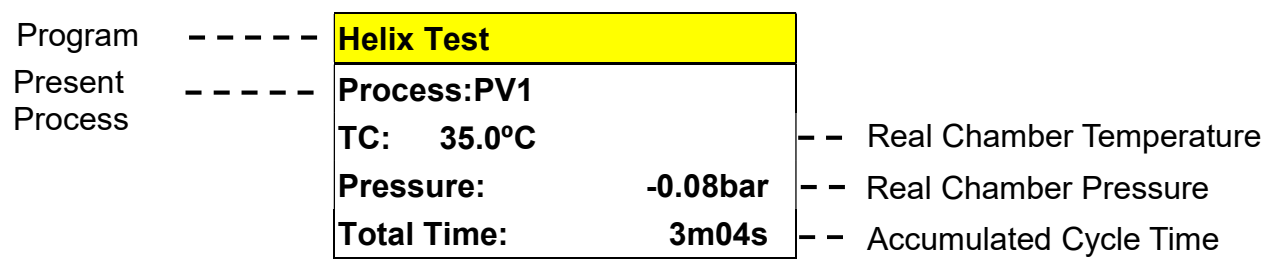

Figure 111
F. Press  button to star the Helix Test Program, as shown in Figure 111.